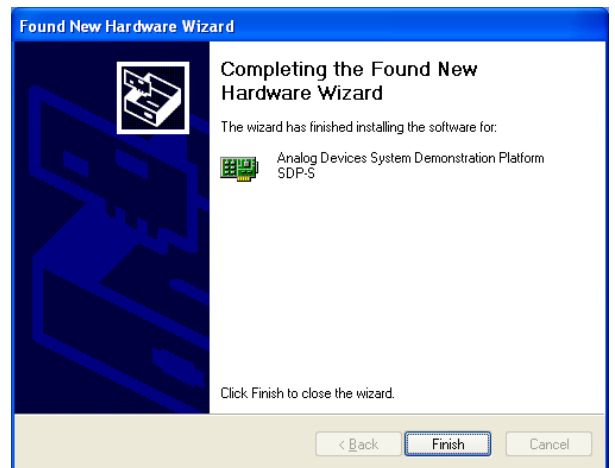

Figure 16. Windows XP SDP-S Board Driver Installation, Complete Installation
2. Connect your SDP board to **EV-ADF4113HVSD1Z** and to the USB port of the PC using the supplied USB cable. If you are using Windows XP, follow the steps in the Windows XP Driver Installation Guide section (see Figure 13 to Figure 16). If you are using Windows Vista or Windows 7, the drivers install automatically.